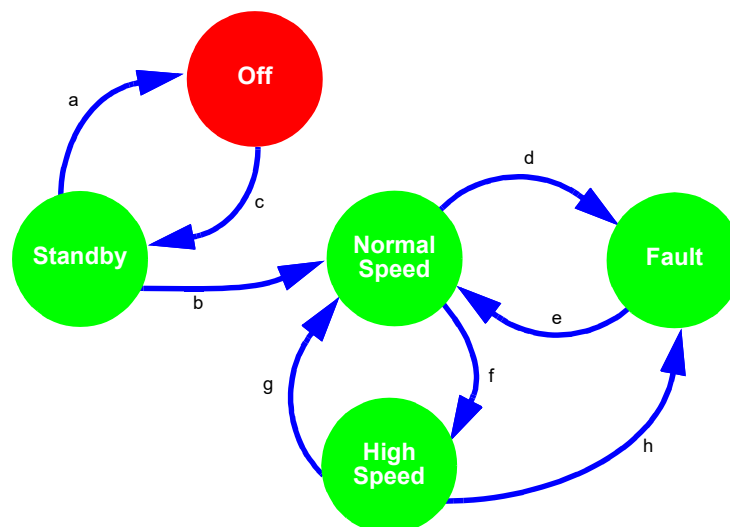

Figure 107: Asynchronous State Machine State Transitions
The Asynchronous State Machine macrocell is one of several macrocells in the Asynchronous State Machine Subsystem, and its specific role is to hold one active state at a time, and to facilitate user defined state transitions in a fast and power efficient manner. This macrocell is designed to allow the user to create state machines with between 2 to 12 states. When combined with the other macrocells in the ASM subsystem [four Dynamic Memory (DMx\_x) macrocells, three Matrix Interface (MIx) macrocells, and one f(1) Computation Macrocell], the user has flexibility to define the available states, the available state transitions, and the input signals (a, b, c ...) that will cause transitions from one state to another state, as shown in the example in Figure 107.